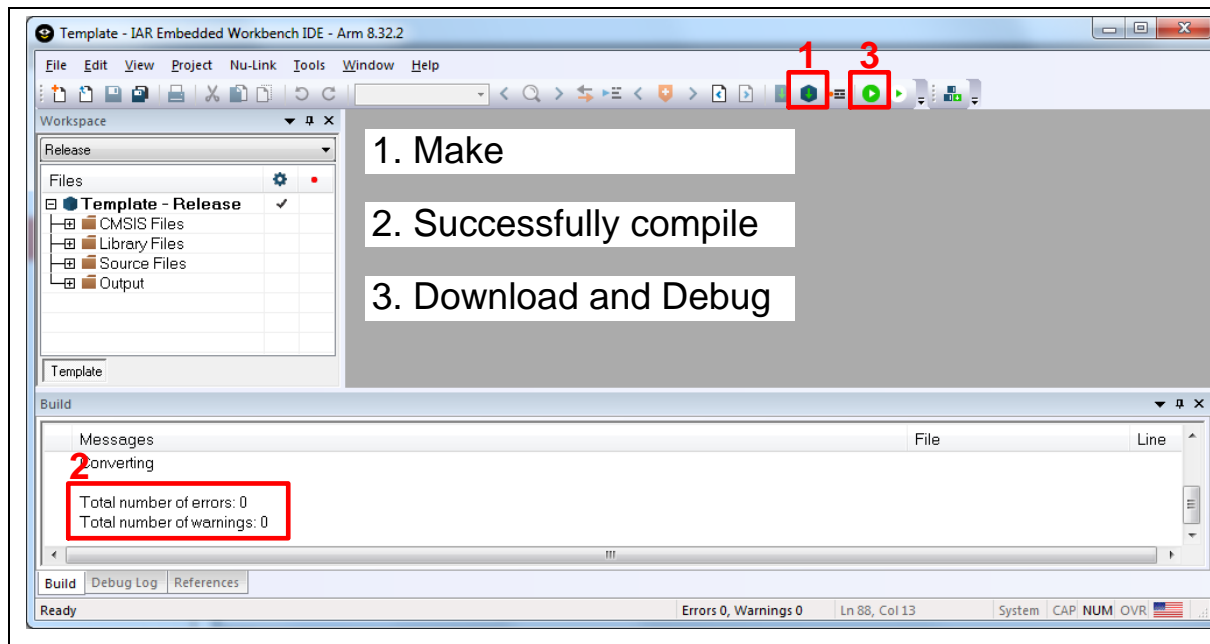

Figure 5.2-33 Compile and Download the Project
(10) Make target file as presented in Figure 5.2-33. After successfully compile the project, download code to the flash memory and enter debug mode.